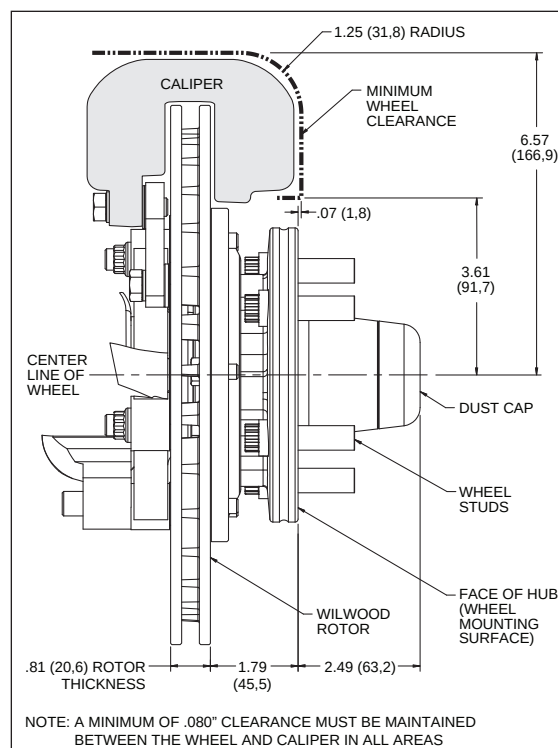

Figure 2. Wheel Clearance Diagram
- Review the Wheel Clearance Diagram (Figure 2, page 3) to verify that there is adequate clearance with the wheels you will be using with the installation.
- Verify wheel clearance utilizing Figure 2.
- WARNING:** The wheel contact surfaces must seat completely on the face of the hub. If any contact surfaces overhang the outside diameter of the hub face, a 6.60" diameter x .20" thick steel spacer (item 16, Wilwood P/N 300-11961) MUST be used between the wheel and the hub.